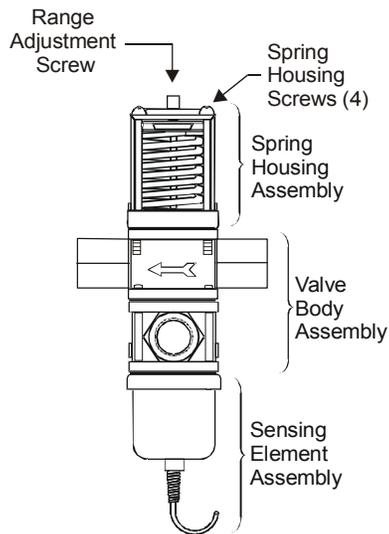
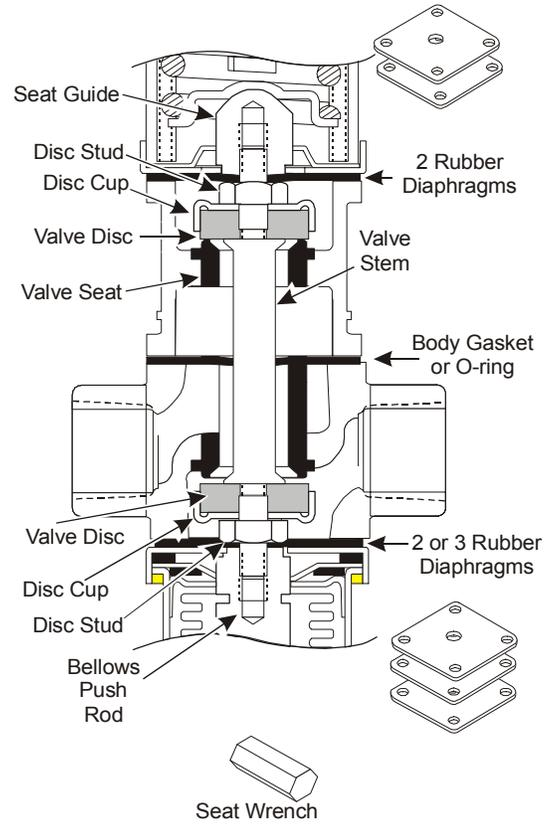
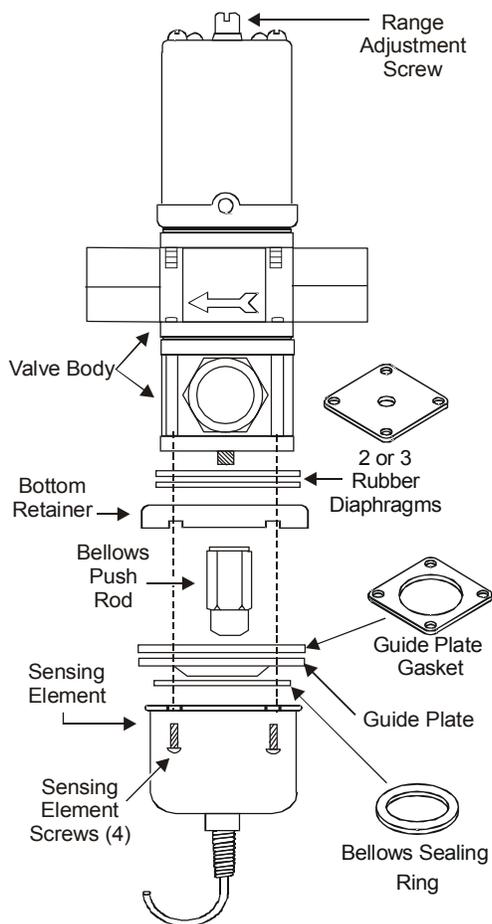
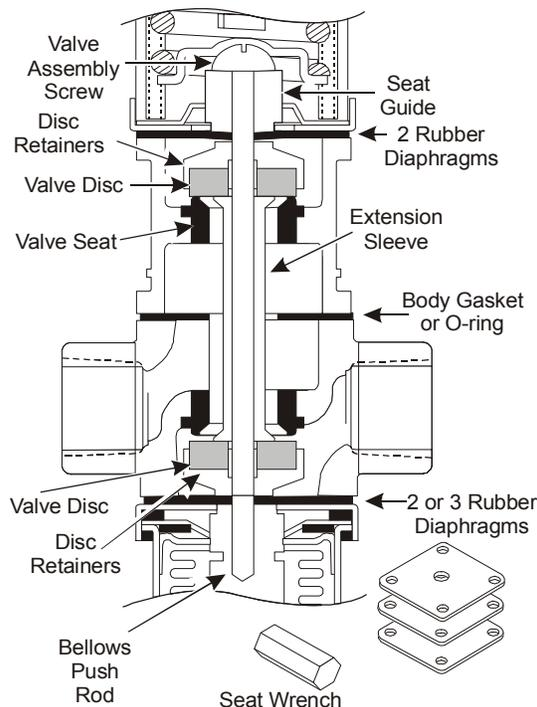

Figure 2: Spring Housing Assembly
Figure 3: Valve Body Assembly
Figure 4: Sensing Element Assembly
Figure 5: Valve Body Assembly
See Figure 2, Figure 3, and Figure 4 for parts identification.
16. Turn the bellows push rod counterclockwise to remove the bellows push rod and the bottom retainer. See Figure 4.
See Figure 2, Figure 3, Figure 4, and Figure 5 for parts identification.
9. Replace the old parts with new parts: valve discs, disc retainers, seat guide, and assembly screw. Secure in place. Refer to Figure 5 for removal of old parts. For installation of the new construction parts, see Figure 3. See Table 1 for information on the number of rubber diaphragms used on each end.